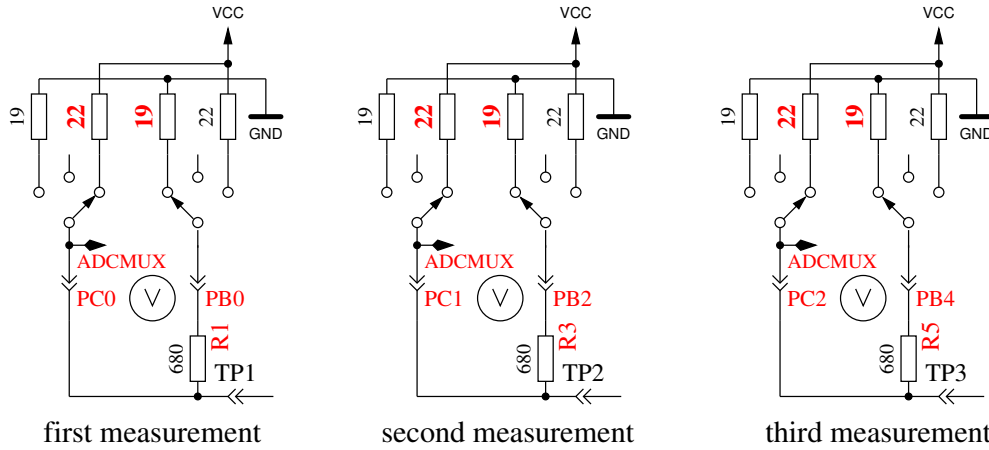

Figure 5.30: Measurement of internal resistance of Port C switched to VCC
8. **Measuring of internal resistance of port outputs switched to the VCC (+)signal.** The needed current is generated with to GND connected 680Ω resistors . The text in the 1st LCD row is “Ri_Hi= (mV)”. In the second row of the LCD three voltages are displayed (in difference to VCC). It are the same measurements as those in test 7 to the other side as you can see in Figure 5.30. With the following steps you can get the resistance: To get the current build: $(5001 - (resultoftest7) - (resultoftest8))/680$. Then you can get both resistor values by dividing the voltage (result of test 7 or 8) by this current.